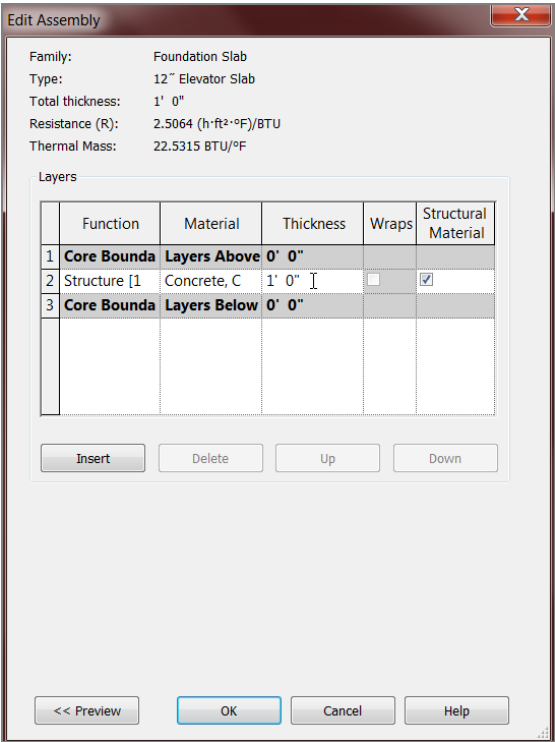

FIGURE 8.62: Changing the structure thickness
- 9. In the Layers field, change Thickness to 1'-0" (300mm), as shown in Figure 8.62.